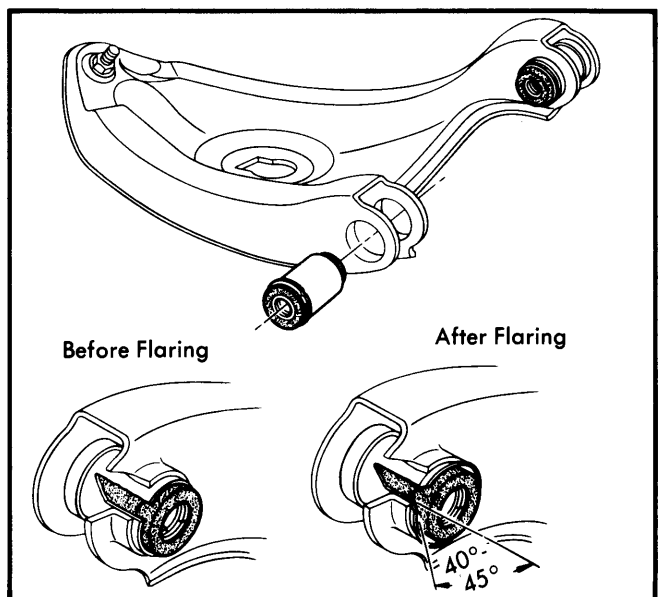
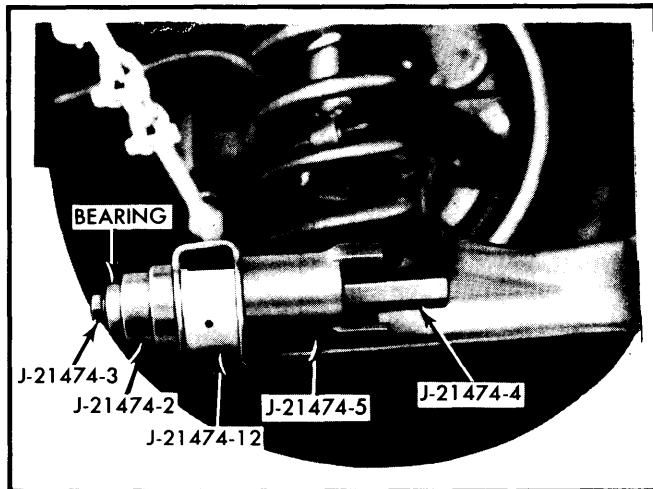

Fig. 6 Lower Control Arm Front Bushing Flaring
Fig. 7 Installing Lower Control Arm Bushing
**Front Bushing Installation** – Place installing tools in position as shown in Fig. 7, and press bushing into place. Remove tools and install flaring tool (J-23915). Turn tool until bushing is flared as shown in Fig. 6. Reverse removal procedure for remaining components.